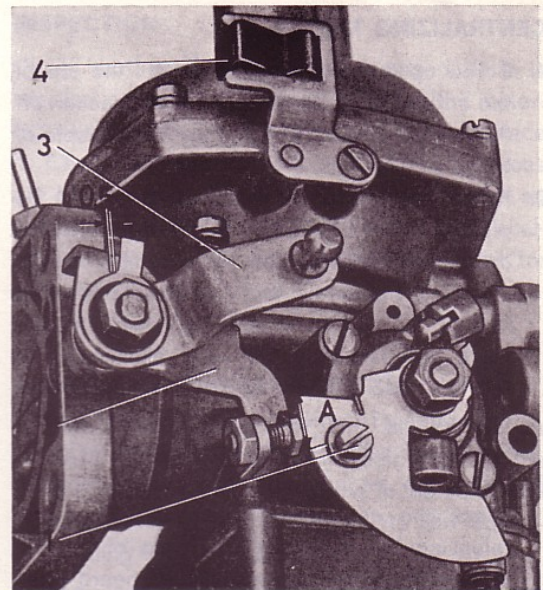

Fig. 86. Setting the fast idle
4. Turn the orifice adjusting screw (1) downwards until the engine starts to run unevenly. Then turn the screw in the opposite direction until the engine once again starts to run unevenly, and note the speed. Finally turn the screw back to a point somewhere between these positions.
5. Adjust the fast idle adjusting screw until it merely touches the choke cam at a point 11–13 mm = 1/2" (A, Fig. 86) from the upper part when choke cam is turned upwards.
After setting the idling speed, adjust the length of the pull rod (in the right-hand and left-hand position respectively in the ball caps) so that there is a clearance of 0.5 (0.02") between the throttle lever and the flange arms of the inner lever. See Fig. 86.
the fast idle cam clamp screw (1, Fig. 86). After this, fasten the outer sleeve of the pull wire the clips intended for this purpose.